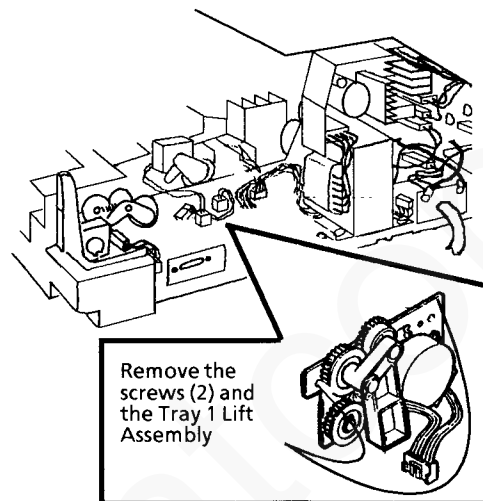

Figure 1. Removing the Tray 1 Lift Assembly
3. Remove the Tray 1 Lift Assembly (Figure 1).